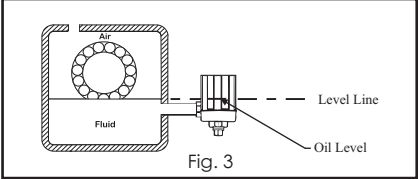

Fig. 3
- Verify the lower casting is level and parallel with desired oil level (Fig. 3). Make necessary adjustments if needed (the **Opto Laser Level Tool** can be used to help with alignment).
- From the oil level mark indicated on the equipment, use a level to put a mark on the outside of the Opto-Matic lower casting to indicate where the oil level should be (Fig 3).